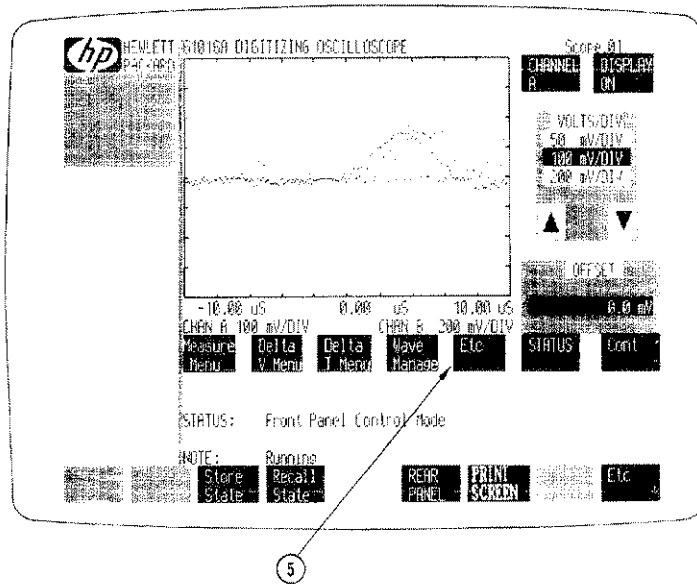

Figure 2-5. Advancing from Level 3 to Level 4
Step 5. The level 3 Scopekeys (see Figure 2-5) also give you access to interactive menu(s) that allow you to select specific measurements on the displayed waveform. For Example, with Wave Manage , you can save a waveform or recall a previously saved waveform for display. Select the Etc Scopekey once more to display the 4th, and last, Scopekey level.